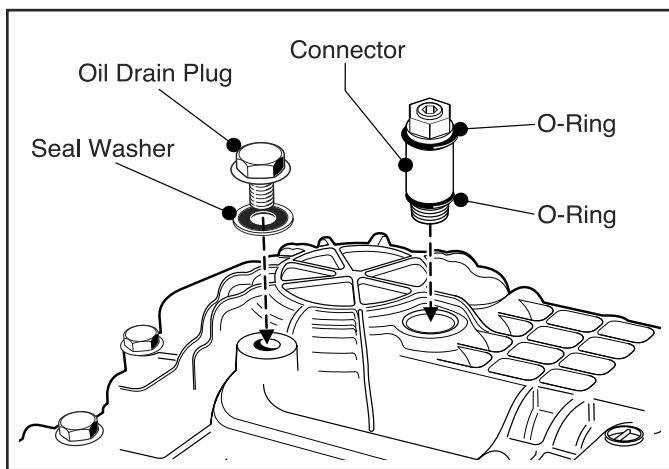

Fig. 1, Oil Drain Plug and Pressure Fill Plug removal
1. Remove the Oil Drain Plug (12 mm wrench) from the Lower Case of Transaxle and drain oil. (Fig. 1)
2. Remove the Connector (14 mm wrench) from the Center Case, through the Lower Case and drain the oil from the Hydrostatic Rotating Groups. (Fig. 1)